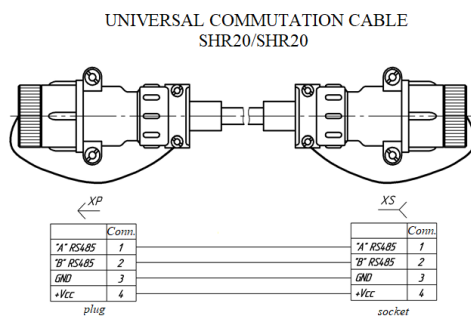

Figure 6. SHR20/SHR20 universal commutation cable
4. Mount the PS-150(RK) transducer;
5. Connect the commutation cable (see Fig. 6) with the PS-150 (RK);
Connecting the PS-150(RK) to the MU-150 / MU-150E / MK-140 units of the DEL-150 System, use the SHR20/SHR20 universal commutation cable from the supplied package (see Fig. 6).